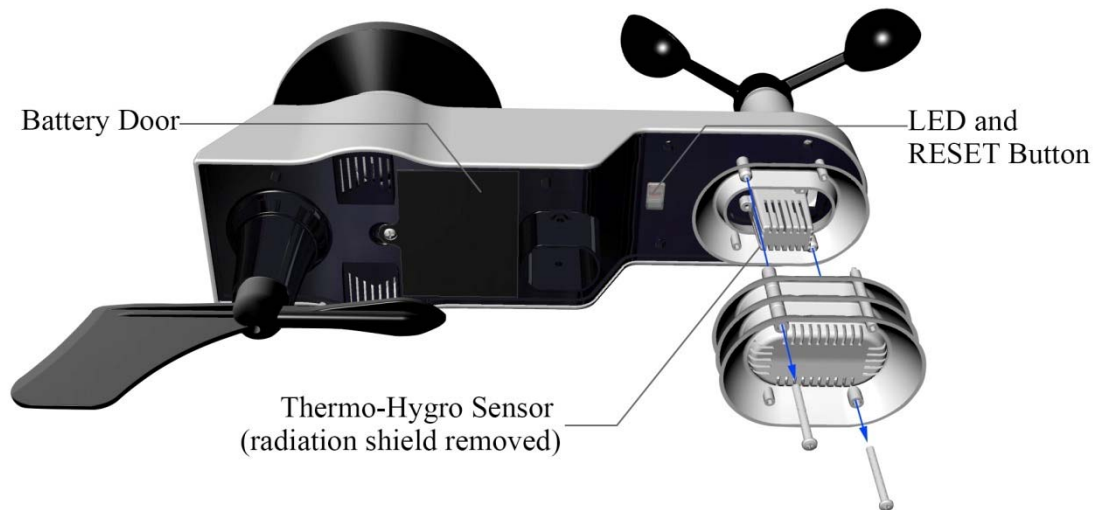

Figure 3
3.3.1 Insert batteries into the transmitter. Locate the battery cover on the transmitter, push and open the battery compartment, as show in Figure 3.